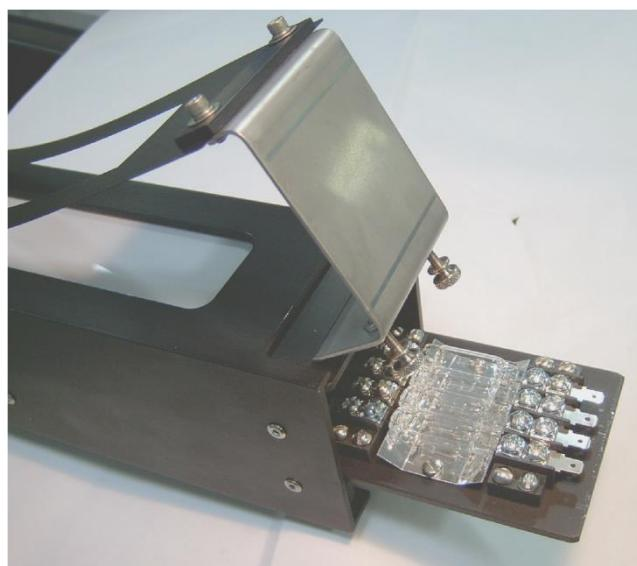

Figure 8.15 Calibrator Lamp Tray Removal
- 2) Unlatch and swing the cover in the open position. Tilt the central beam by hand to maximum tilt position. The central beam is mechanically attached to a plunger equipped with a ball locking mechanism which will slip to allow the beam movement when the motor is stopped. Loosen the two thumb screws located under the beam end without removing them completely. Carefully slide out the beam end plate which is attached to the calibrator mask and rest it on top of the beam end. Gently but firmly pull out the lamp tray with the fingers and withdraw it from the housing (Figure 8.15).